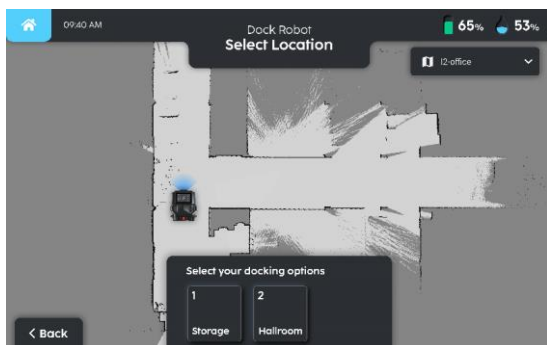

Fig. 3
4. Select docking location for the robot on the map (Fig 3).